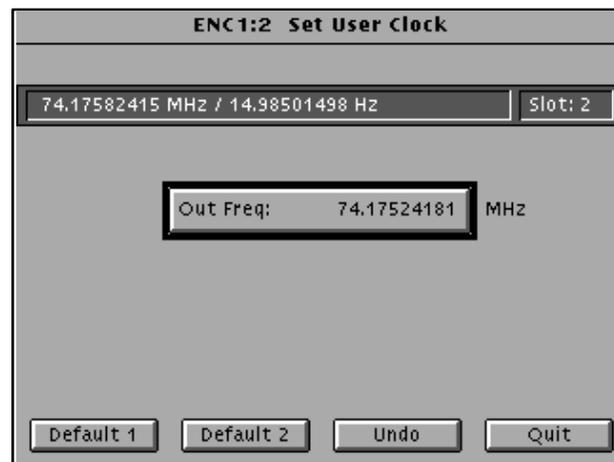

Figure 2–3: Set User Clock window
1. In the Clock Out window, touch **Set User Clock** (see Figure 2–2). The Set User Clock window opens (see Figure 2–3 on page 2–5).